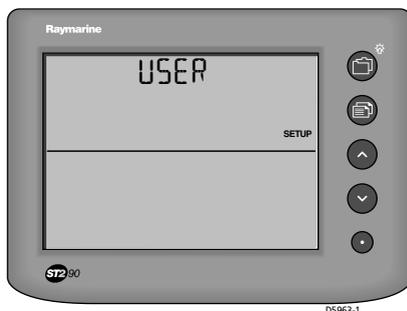

Figure 3-2: User Setup entry screen
2. Hold down the  button for 2 seconds to display the User Setup entry screen (see *Figure 3-2* ).